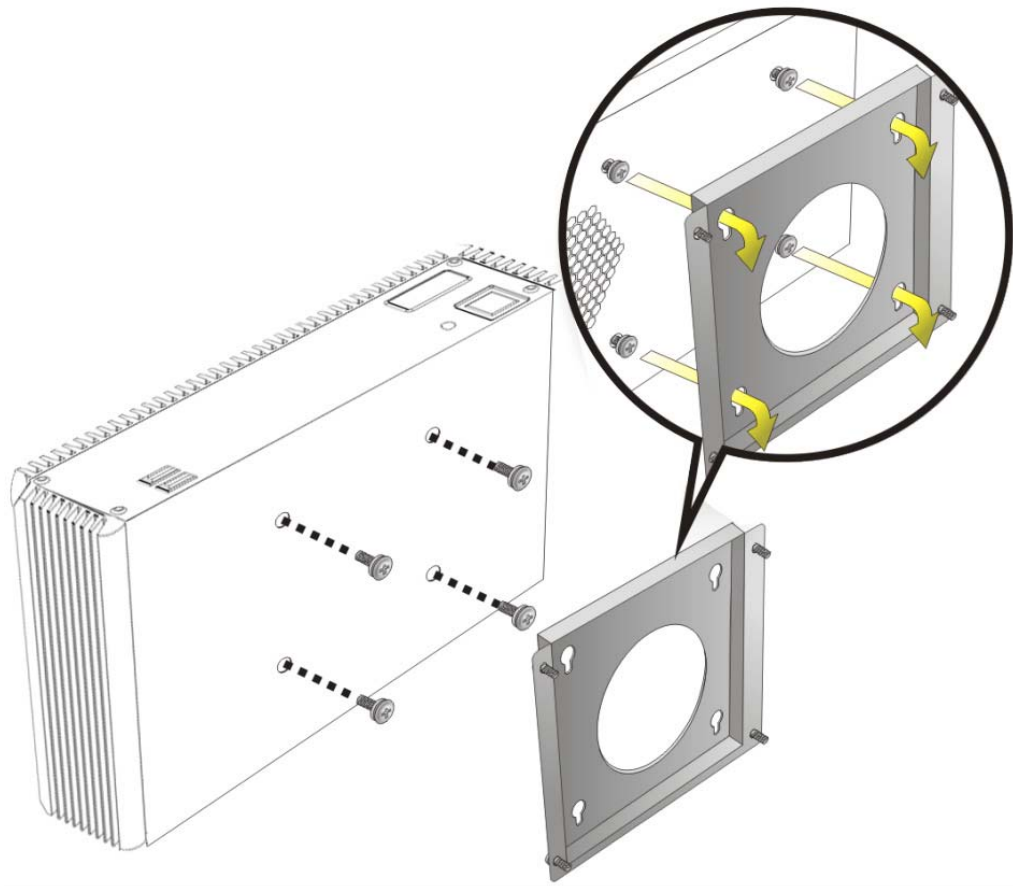

Figure 4-8: Mount the Embedded System
- Step 6:** Insert the four monitor mounting screws provided in the wall mounting kit into the four screw holes on the bottom panel of the system and tighten until the screw shank is secured against the bottom panel (**Figure 4-8**).
- Step 2:** Carefully insert the screws through the holes and gently pull the monitor downwards until the EX-9392B rests securely in the slotted holes (**Figure 4-8**). Ensure that all four of the mounting screws fit snugly into their respective slotted holes.